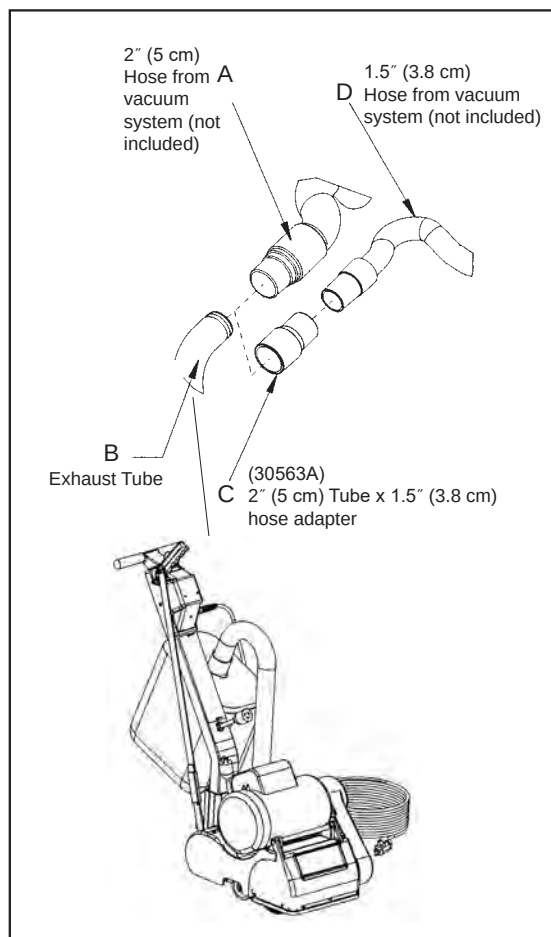

Figure 9
1. Install 2" (5 cm) hose end (figure 9, A) directly over the exhaust tube (figure 9, B).
1. Install the 2" (5 cm) x 1 1/2" (3.8 cm) hose end adapter (Part No. 30563A) (figure 9, C) over the exhaust tube (figure 9, B).
2. Insert 1 1/2" (3.8 cm) hose end (figure 9, D) into the adapter (figure 9, C).